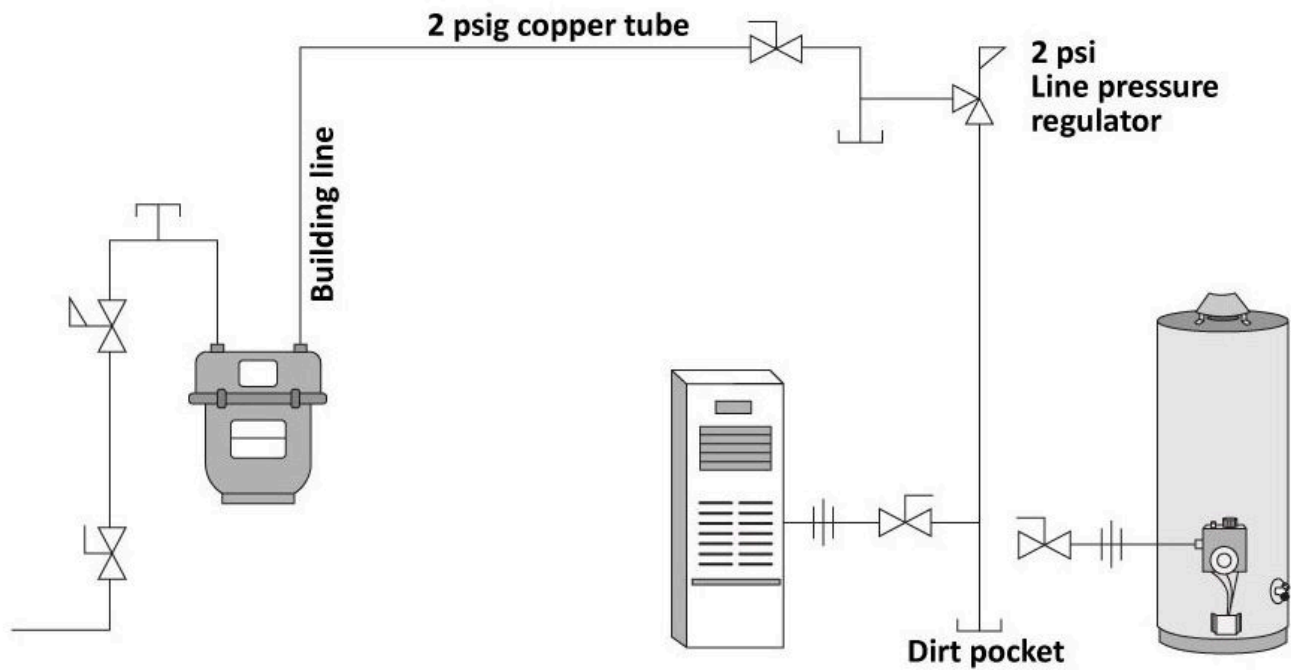

Figure 6. Building gas piping system.
The consumer gas piping system conveys the fuel gas from the point of supply to the gas burning appliances. It may be black iron pipe, CSST, copper tubing or polyethylene (PE) plastic (underground only). The point of supply for natural gas is usually a gas utility companies' meter and, for propane, a propane storage tank. The gas fitter is responsible for designing a piping system, capable of supplying the required volume of gas to each gas-fired appliance, following good piping practices and the requirements of the B149.1 National Gas Code. Figure 6 shows the typical parts of a consumer fuel gas piping system.
- Figure 6 “Building gas piping system” by Camosun College is licensed under a CC BY 4.0 licence.